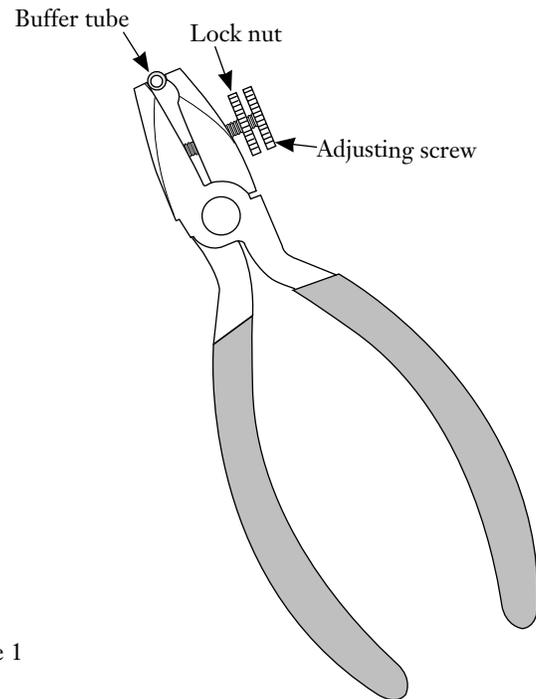

Figure 1
- b) Using the buffer tube as a feeler gauge, place the tube between the forward part of the plier jaws (Figure 1).